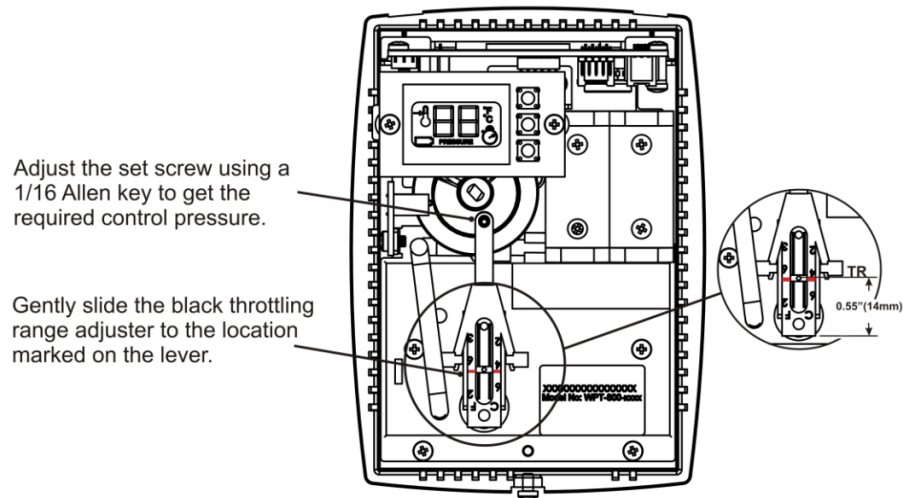

Figure 12. WPT Calibration
NOTE: The black throttling range adjuster has been factory set to the location marked on the lever as shown in Figure 12. The factory setting provides a Throttling Range (TR) of about 4F. The TR adjuster is very sensitive and should not be moved more than ± 0.100 " from the factory setting. The bi-metallic strip can be damaged if enough care is not taken while moving the throttling range adjuster. Use a gentle nudging motion on the throttling range adjuster, without exerting force on the bi-metal strip, as this type of force will likely damage the bi-metallic strip.
4. Use a 1/16" hex Allen wrench and very carefully turn the calibration set screw on the thermostat lever, shown in Figure 12, until the desired branch pressure is achieved. Use extreme caution not to allow the lever to rotate sideways while adjusting the setscrew. Damage to the bi-metallic spring can result if the end of the lever is allowed to move left or right by more than 1/16".